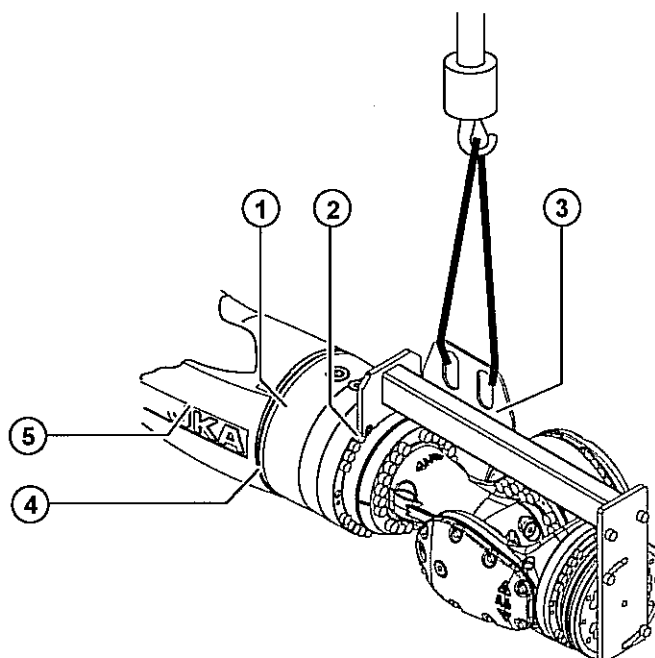

Fig. 12-27: Removing the in-line wrist
- ≡ The arm is in the horizontal position as shown in (>>> Fig. 12-27).
1. Fasten the lifting device to the in-line wrist and the crane (>>> Fig. 12-27).